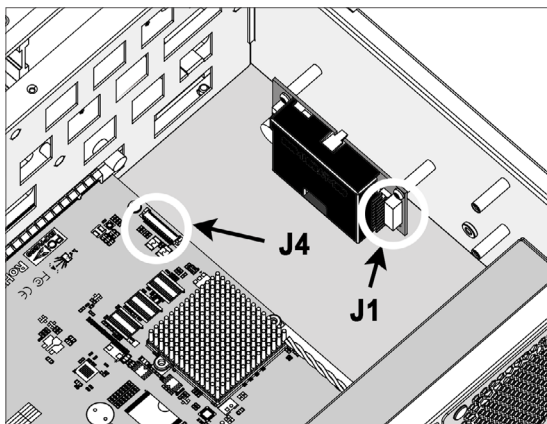

Figure C-7, Insert the cable connector into J1 & J4
3. Insert the cable connector into the **J1** (12-pin box header battery connector on ARC-6120-BAT121-7 module), and also insert another side of the cable connector into the **J4** (14-pin box header battery connector on ARC-8050T3-16R/24R backplane), as shown in Figure C-7.